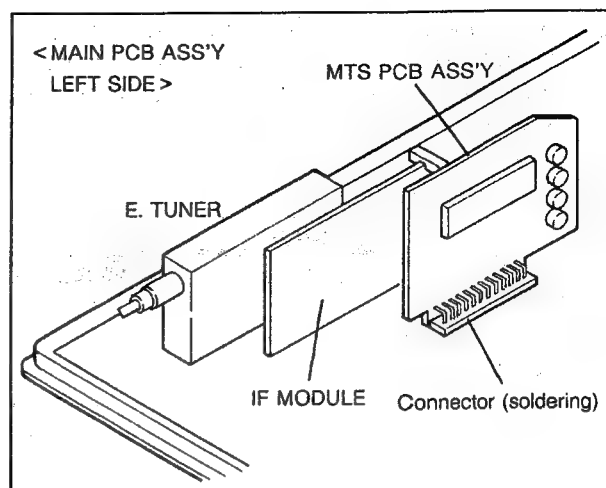

Fig. 4
- 1. Pull the MAIN PCB Ass'y outward and unsolder the connections indicated in Fig. 4.